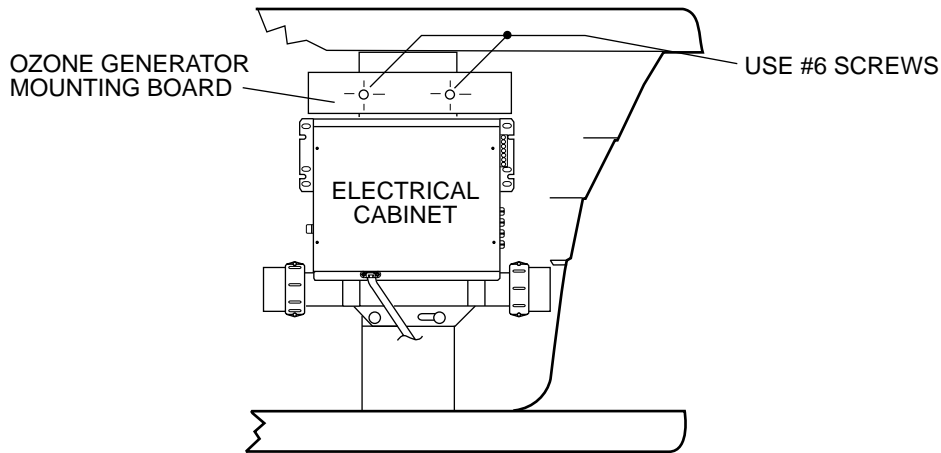

FIGURE 3 - MOUNTING BOARD
5. Install the ozone generator according to the manufacturer's instructions. Attach the 4-1/2" x 14" x 1/2" thick plywood board to the spa, just above the electrical cabinet, using the #6 screws provided. Several commercially available ozone generators will fit easily in this location. Attach the ozone generator to the board using the #10 screws provided. See Figure 3.